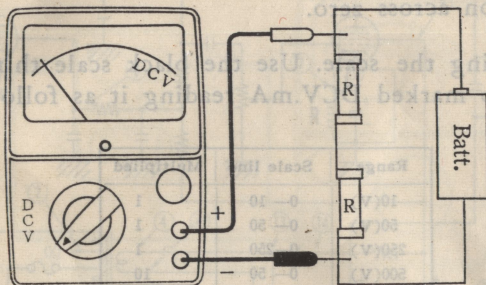

Fig. 1 - DC Voltage Measurement.
- Different from voltage measurements, the meter must be connected in series with the load. The test point ( $\times$  in Fig. 1) is opened and the meter is placed in between by way of the test leads.